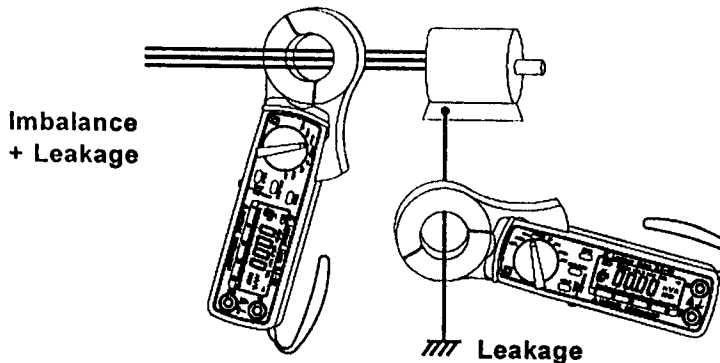

Fig.5: 3 ϕ 3 Wire Imbalance and Leakage Measurement
- Press the trigger to open the transformer jaw and clamp around the ground conductor only (see Fig.5). Make sure that the jaw is fully closed.
3. Press the trigger to open the transformer jaw and clamp around the three "Hot" conductors only (see Fig.5). Make sure that the jaw is fully closed.
7. Press the trigger to open the transformer jaw and clamp around the ground conductor only (see Fig.5). Make sure that the jaw is fully closed.